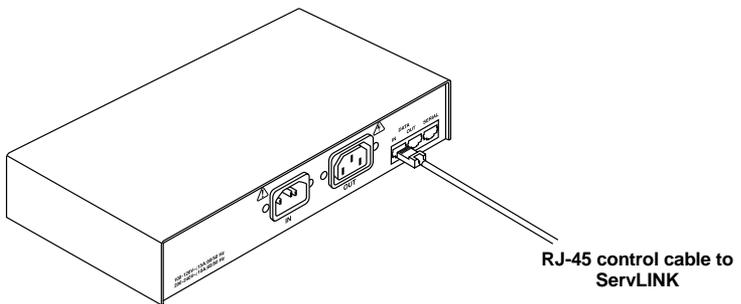

Figure 3-8. Attaching an RJ-45 cable to the Power Management Module.
2. Plug one of the RJ-45 cables included with the Management Module into the "DATA IN" port on the Module, as shown in Figure 3-8.